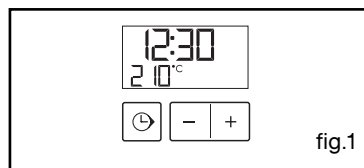

fig.1
- Select the desired cooking mode and adjust the temperature (fig.1).